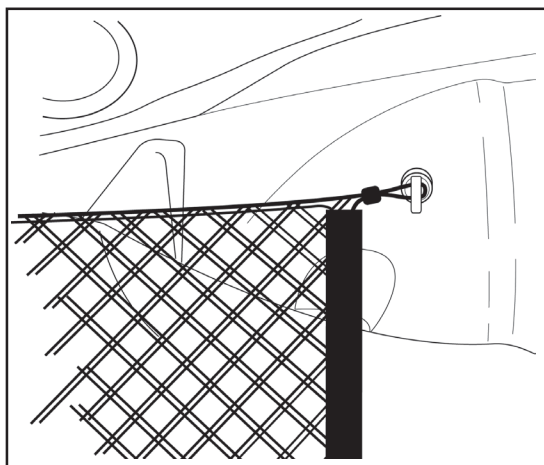

Fig. 7
9. Install cargo net over T-anchors, ensuring the pull tab in the middle of the net is facing rearward. (Fig. 7)